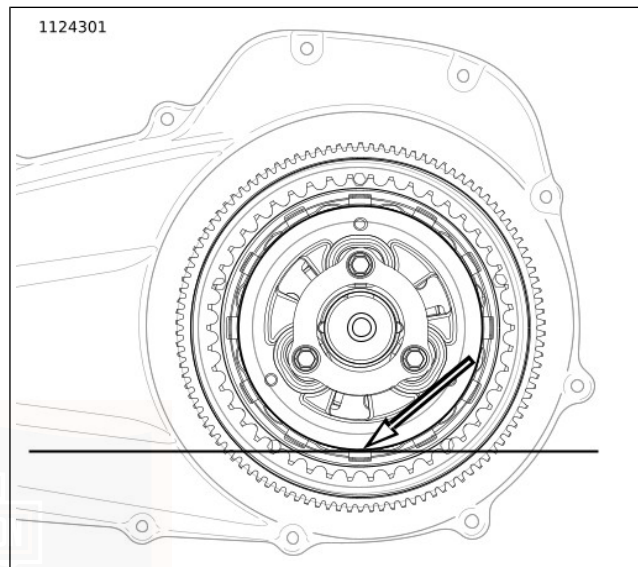

Figure 53. Primary Lubricant Level
- b. See Figure 53. Proper level is approximately at bottom of pressure plate OD.